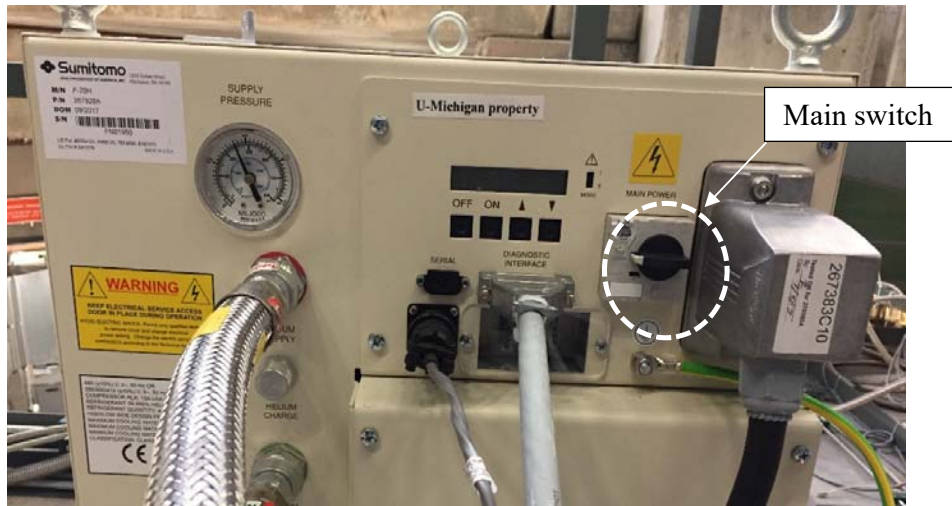

Figure 12: A picture of the front panel of the compressor showing the main power switch in OFF position
- a) turn ON main power switch on front panel of compressor (Fig. 12),
Important: if slow-control system switches to 'shut down mode' for safety reasons, physically check that compressor is turned OFF by the slow control system to prevent freezing. This can be checked by touching the compressor and confirming it has stopped vibrating. If it is still ON, manually set the main power switch of the compressor to OFF. It is located on the front panel (see Fig. 12).
- a) turn ON main power switch on front panel of compressor (**Fig. 12**),